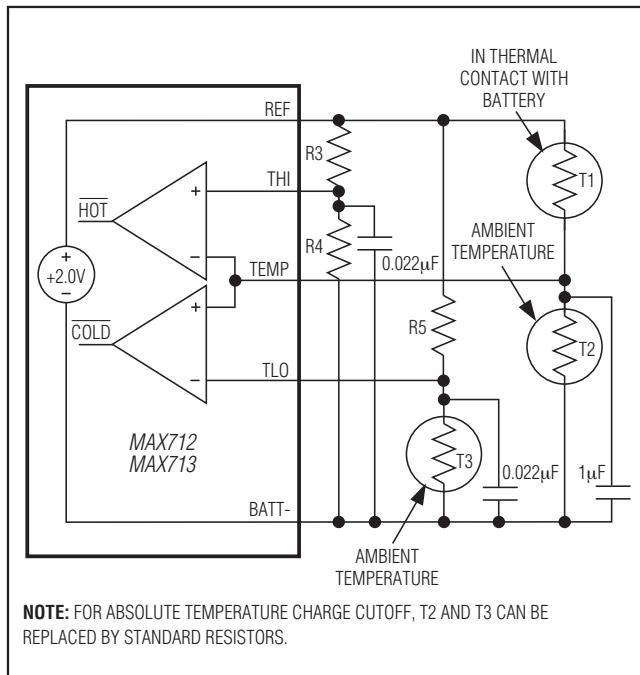
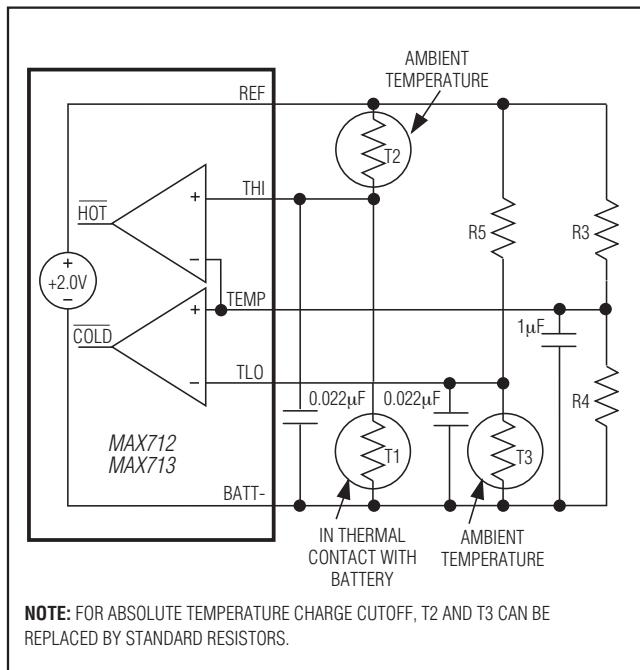
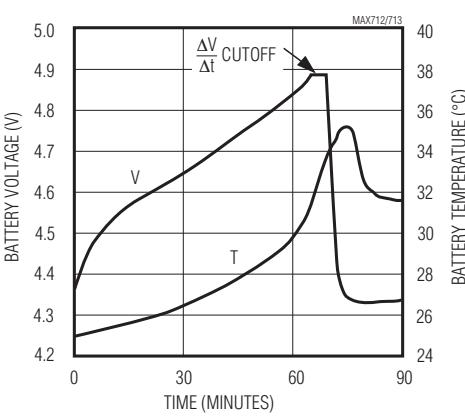

Figure 9a. Temperature Comparators
Figure 9b. Alternative Temperature Comparator Configuration
Figure 13. 3 NiMH Cells Charged with MAX712
Figure 9a shows how the MAX712/MAX713 detect over- and under-temperature battery conditions using negative temperature coefficient thermistors. Use the same model thermistor for  $T_1$  and  $T_2$  so that both have the same nominal resistance. The voltage at TEMP is 1V (referred to BATT-) when the battery is at ambient temperature.
Some battery packs come with a temperature-detecting thermistor connected to the battery pack's negative terminal. In this case, use the configuration shown in Figure 9b. Thermistors T2 and T3 can be replaced by standard resistors if absolute temperature charge cutoff is acceptable. All resistance values in Figures 9a and 9b should be chosen in the  $10\text{k}\Omega$  to  $500\text{k}\Omega$  range.
Figures 13 and 14 show the results of charging 3 AA, 1000mAh, NiMH batteries from Gold Peak (part no. GP1000AAH, GP Batteries (619) 438-2202) at a 1A rate using the MAX712 and MAX713, respectively. The *Typical Operating Circuit* is used with Figure 9a's thermistor configuration.